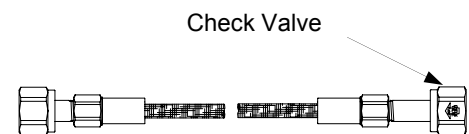

Figure 14
3. Connect pigtails to header check valve outlet bushing with direction of check valve flow from cylinder to manifold end of pigtail (the check valve end of the pigtail should be connected to the cylinder). (Figure 14)